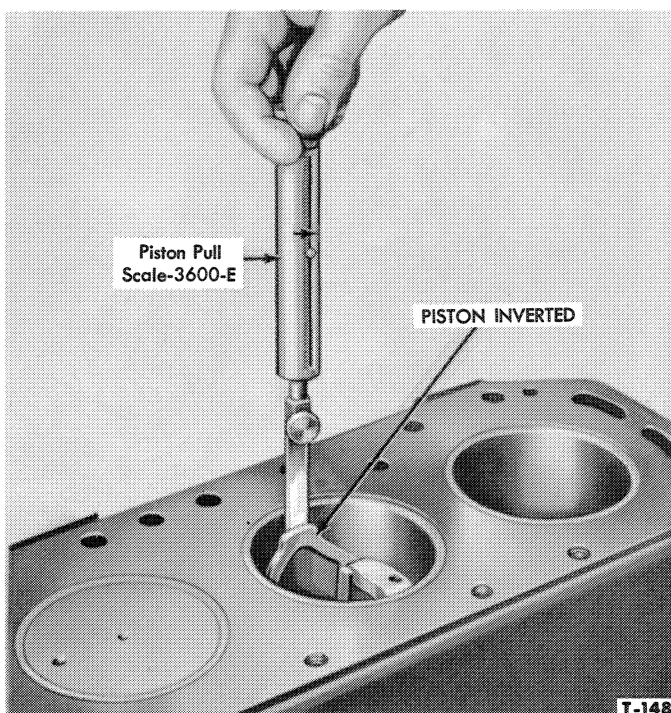

Figure 45—Fitting Pistons
6. Position the feeler ribbon on the side of the piston 90° from the piston pin hole. Invert the piston, then push the piston and feeler gauge into the cylinder so that the end is about $\frac{1}{2}$ " below the top of the block. Keep the piston pin bores parallel with the crankshaft axis. Pull out the feeler gauge while noting the scale reading, see Figure 45.